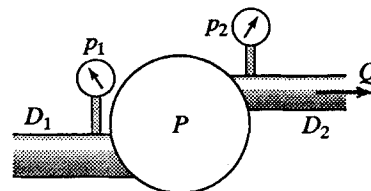

Figure P15.1
- 15.2 The diameter of the discharge side of a pump is 6 in, and that of the intake pipe is 8 in (Fig. P15.1). The pressure gage at discharge reads 30 psi, and the vacuum gage at intake reads 10 inHg. If $Q = 3.0$ cfs of water and the brake horsepower is 35.0, find the efficiency of the pump. The intake and discharge are at the same elevation.